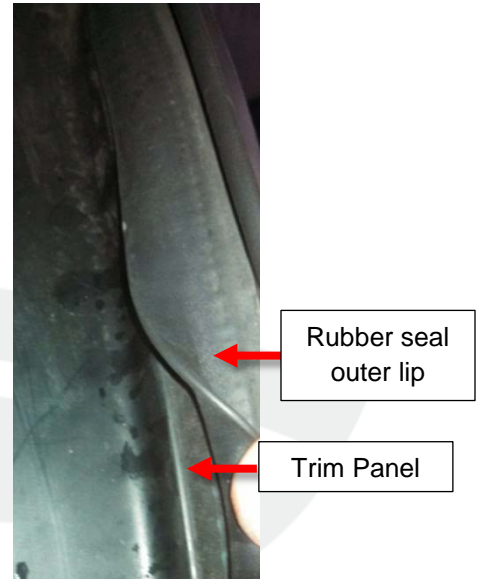

**Figure 5 (LH side shown)**
4. Remove the backing from the adhesive on the new liftgate trough trim panels (Figure 5).